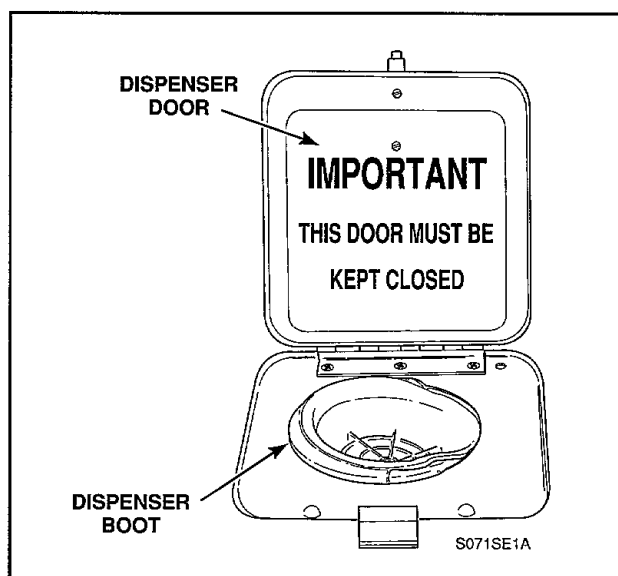

Figure 12
- e. Open dispenser door, compress dispenser boot and push boot down through cabinet top, *Figure 12*.
- f. Open dispenser door, compress dispenser boot and push boot down through cabinet top, *Figure 12*.
- g. Open dispenser door, compress dispenser boot and push boot down through cabinet top, *Figure 12*.